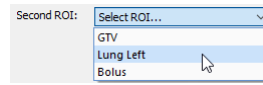

Figure 265 – Selecting the second ROI for algebra
4. Select the second ROI in the drop-down list that is displayed by clicking the **Second ROI** button (see Figure 265).